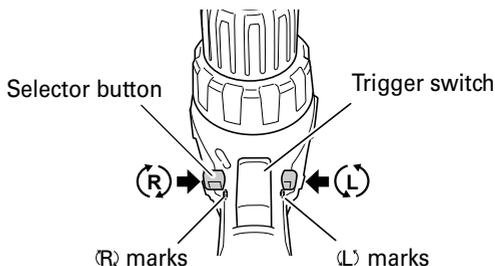

Fig. 6
- The L-side of the selector button is pushed to turn the bit counterclockwise (See Fig. 6). (The (L) and (R) marks are provided on the body.)